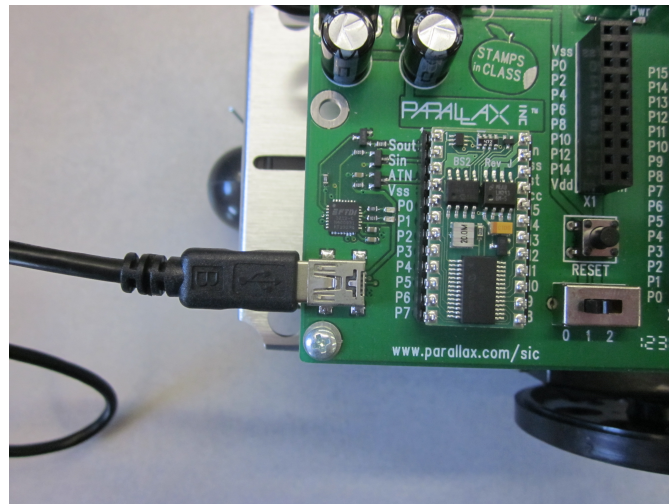

Figure 2: USB Cable
3. Plug the USB cable into the circuit board as shown in Figure 2, and plug the other end into your computer.